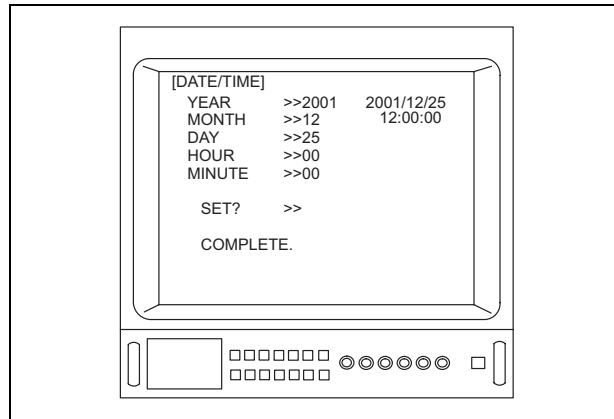

Figure 5.13
11. Depress the menu switch “←” or the “Enter” key on the keyboard to set the clock. Then, the menu shown in Figure 5.13 is displayed.